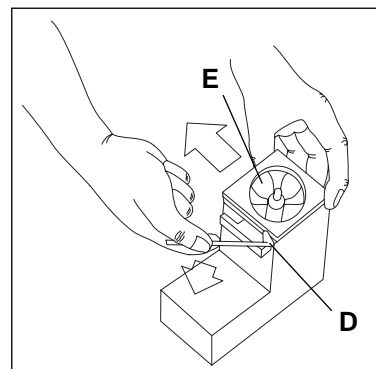

Figure 9.28
7. Pull the lamp release lever (D) down and slide lamp (E) out of fitting (Figure 9.28).